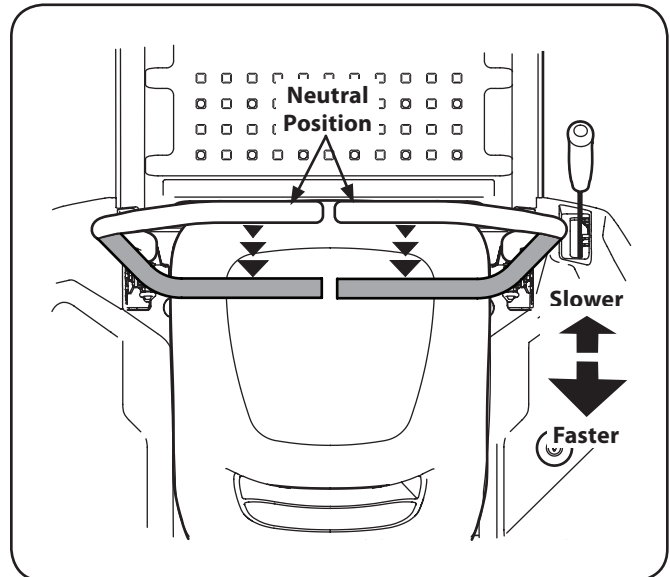

Figure 5-6
1. Slowly and evenly move both drive control levers rearward. The tractor will start to move in the reverse direction. See Figure 5-6.